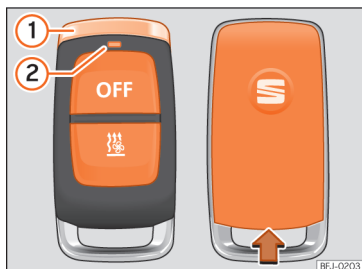

Fig. 152 Auxiliary heating: radio-operated remote control.
When the buttons are pressed, the LED of remote control  **Fig. 152**  gives the user a range of information:
- Secure the remote control with the chrome pin »» Fig. 152 ① vertically facing upwards.
- Insert a suitable tool, e.g. a screwdriver, into the indentation in the remote control housing, in the direction of the arrow »» Fig. 152.
- Slide the cover in the direction opposite to the arrow until it clicks into place »» Fig. 152.